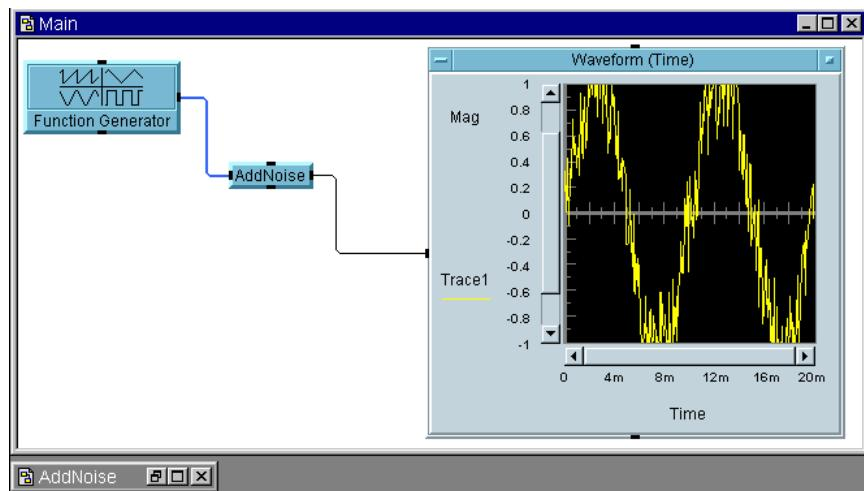

Figure 2-5. Noisy Cosine Wave
8. Click the **Run** button to display the noisy cosine wave as shown in Figure 2-5. Note that AddNoise is minimized, and appears in icon form at the bottom of the work space. To minimize AddNoise, click on the minimize button in its title bar, shown as the underline symbol (_).